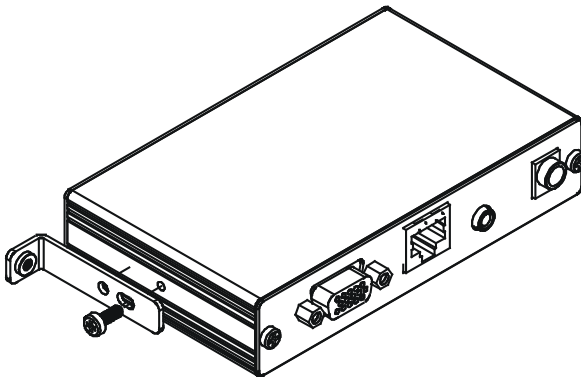

Figure 3: Attaching the “L” Shaped Bracket
2. Attach the “L” shaped bracket to the TOOL and screw in the appropriate hole to the right side panel² of the TOOL (see Figure 3).